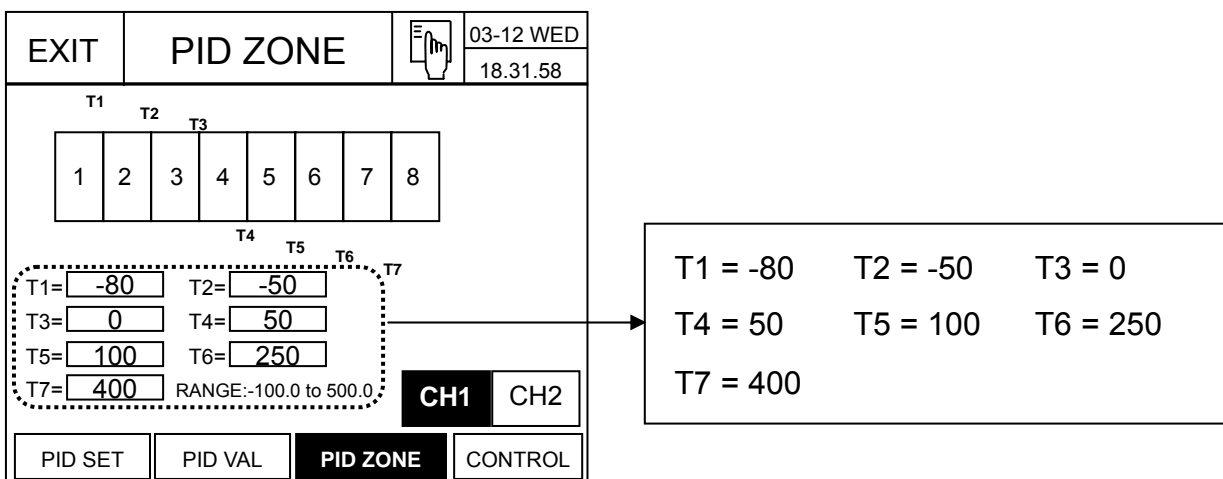

Fig. 3.13.2 PID ZONE Set screen
- Refer to figure 3.13.2 for detail.
PID ZONE can be divided up to eight according to setting T1 to T7 like figure 3.13.2. and PID ZONE number is selected by changing SP or PV automatically.
If the PID ZONE type is SP, Working SP is 40.0 and like figure 3.13.2, T values are set, because the SP is between T3(0) and T4(50) by the figure, Zone number for PID control is four. So PID constants in ZONE 4 are operated for PID control.
If the PID ZONE type is PV, the PV is 150.0 and like figure 3.13.2, T values are set, because the PV is between T5(100) and T6(250) by the figure, Zone number for PID control is 6. So PID constants in ZONE 6 are operated for PID control.